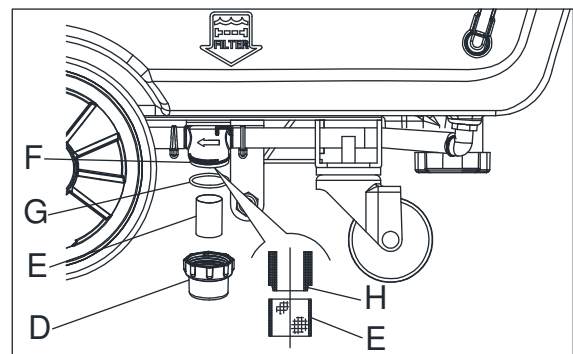

Figure 16
2. Ensure that the machine is off and the ignition key (35) has been removed.
4. Remove the transparent cover (D, Figure16), then remove the filter strainer (E). Clean and install them on the support (F).